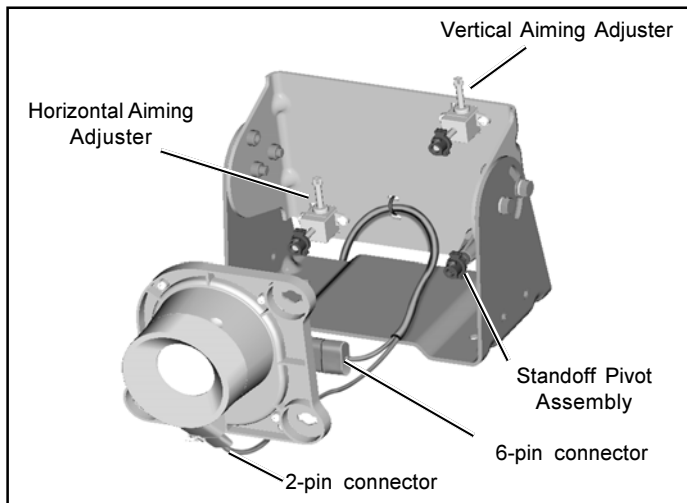

Figure 2 Connecting the Camera Harnesses
1. Turn the pivot locks of the aiming assemblies(1) aligning the tabs with the slots in the camera body. Pull the camera from the aiming assemblies(1) and standoff pivot assembly(3).
2. Unplug the 2 pin and 6 pin connectors from the camera. See Figure 2.
4. On the backside of the camera bracket, remove the one plastite screw(5) and lock washer(6) that secures the standoff pivot assembly(3) and standoff base(4) to the bracket.
5. Remove and discard the aiming assemblies(1), standoff pivot assembly(3), standoff base(4), mounting screws(2 and 5) and lock washer (6).
1. Install the standoff base(4) and standoff pivot assembly(3) in the lower right corner of the camera bracket. Secure with the plastite screw(5) and #10 lock washer(6).
2. Position the aiming assemblies with the adjustment mechanism pointing up when mounted in the position shown in Figure 2. Secure the two assemblies with the four #8 hex torx screws(2). Torque to 17-19 in. lbs.
1. Plug the 2-pin connector of the camera harness into the window heater. Refer to Figure 2.
2. Plug the 6-pin connector of the camera harness into the camera connection. Refer to Figure 2.